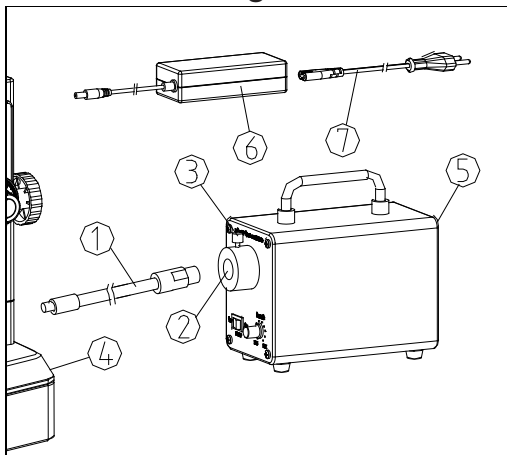

Fig.12
1. Make sure the main switch is at "O" (OFF) position. (See Fig. 12)
2. Insert one end of the optical fiber (1) into the opening in illumination box (2). Align the flat surface with the lock screw (3), then secure with the lock screw (3).
3. Insert the other end of the optical fiber (1) into the opening in the base (4), then secure it with the lock screw.
4. Plug the power adapter (6) into the back of the power illumination box (5).
5. Insert the power cable (7) into the corresponding hole of the power adapter (6) and the other end into the power supply socket.